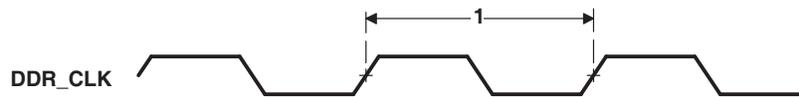

Figure 7-25. DDR2 Memory Controller Clock Timing
Table 7-31. Switching Characteristics Over Recommended Operating Conditions for DDR2 Memory Controller^{(1) (2)} (see Figure 7-25)